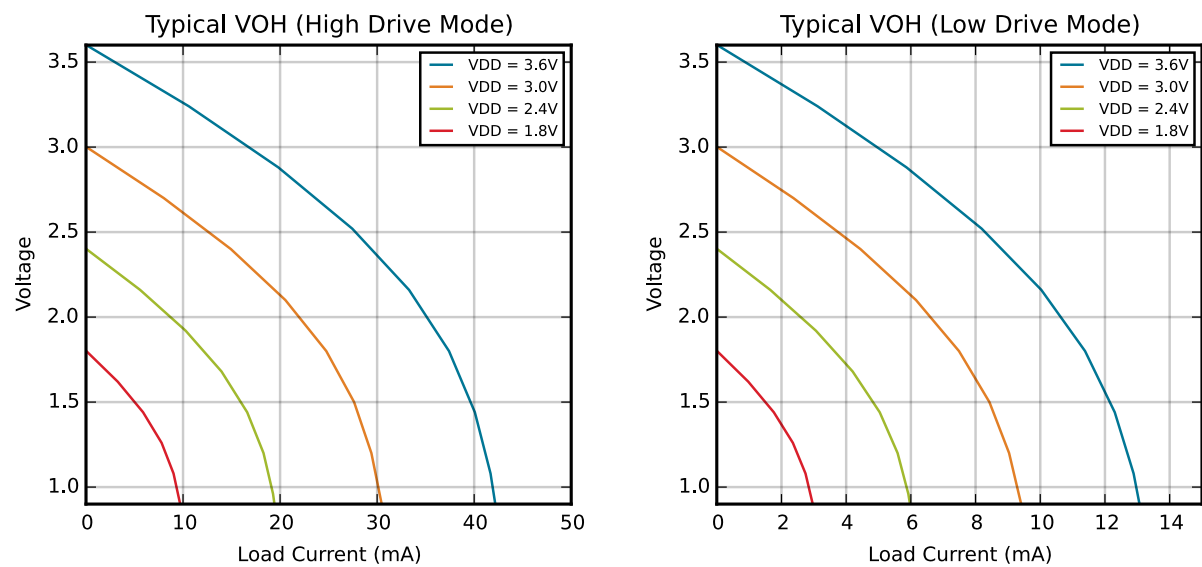

Figure 4.2. Typical V_{OH} Curves
1. See Figure 4.2 Typical V_{OH} Curves on page 24 and Figure 4.3 Typical V_{OL} Curves on page 25 for more information.